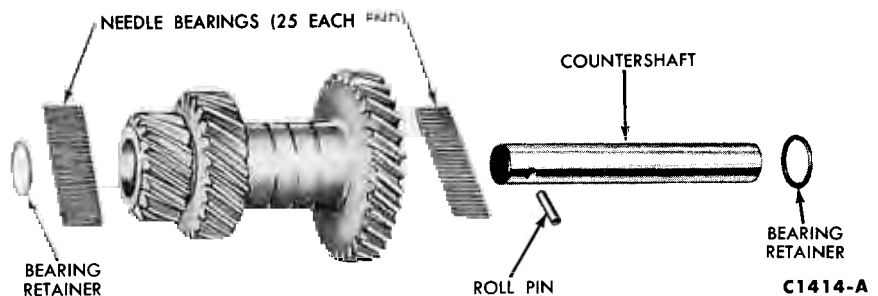

FIG. 18—Countershaft Gear—Disassembled
1. Remove the dummy shaft, 50 roller bearings, and the two bearing retainer washers from the countershaft gear (Fig. 18).